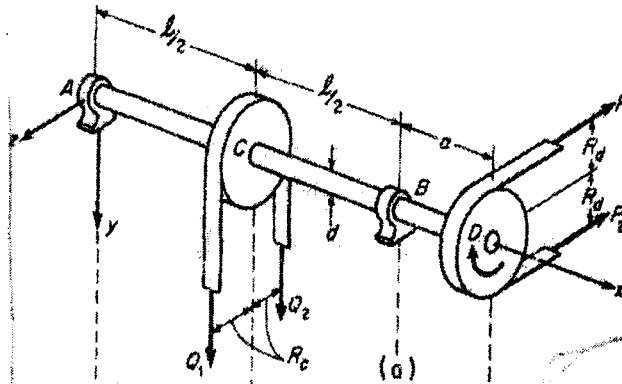

Fig. 6
6. A steel shaft supported in bearings at  $A$  and  $B$  and carrying pulleys at  $C$  and  $D$ , is to transmit 100 hp at 500 rpm from the drive pulley  $D$  to the offtake pulley  $C$  as shown in Fig. 6. The following numerical data are given :  $P_1 = 2P_2$ ,  $Q_1 = 2Q_2$ ,  $R_d = 15$  cm,  $R_c = 20$  cm,  $l = 1.2$  m,  $a = 30$  cm, and the working stress in shear is  $\tau_w = 420$  kg/cm2. Calculate the required diameter  $d$  of the shaft.